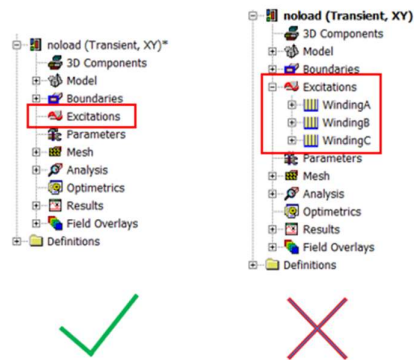

Fig. 5
3. Open the *.aedt* file. **Make sure there are no items in “Excitations” (Fig. 5).**